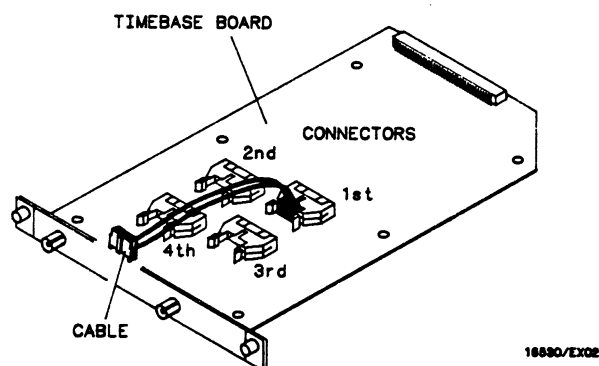

Figure 6-15. Cable Position
- h. Lay cable(s) flat and pointing out to rear of card. See figure 6-15.